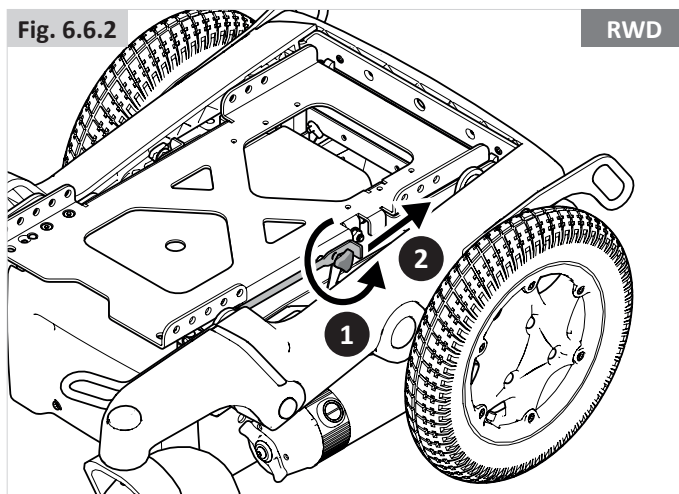

Fig. 6.7
- Ensure the seat is secured with the seat stay in place, before letting go, (Fig.6.7 Front - Fig.6.8 Rear).